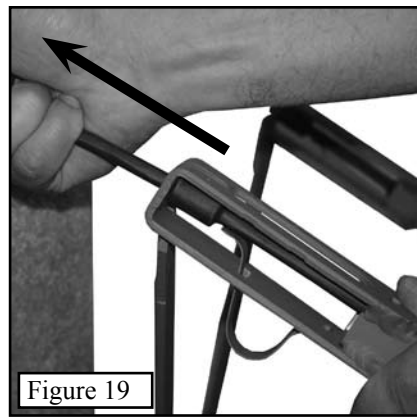

Figure 19
Step 3. Pull the cable towards the back of the tree and “seat” the cable stop against the back of the bracket, as shown in *Figure 19*. The QuickDraw cable spring will “lock” into place behind one of the cable stops.